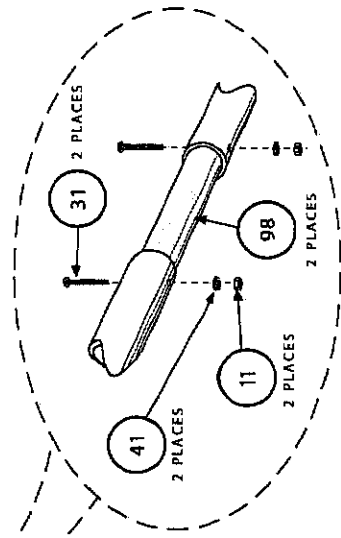

FIGURE 2B
Assemble the elements per Figure 2. To assemble element #1, insert the Fiberglass insulator (98) into element sections EA and align the outer holes of the insulator with the holes in section EA. Place the 8-32 machine screws (31) through the two holes and fasten with lock washers (41) and hex nuts (11) as shown in Figure 2B. Place worm clamps (41) over the ends of element EA and worm clamps (410) over the ends of elements EB and EC. Insert elements EB into elements EA to a 4-inch insert length. Tighten the worm clamps. Insert the MT1 traps into elements EB and EC, with the arrows pointing toward elements EC. Adjust the total length of the assembly by using Chart A. Place the plastic endcaps (61) over the ends of elements EC.